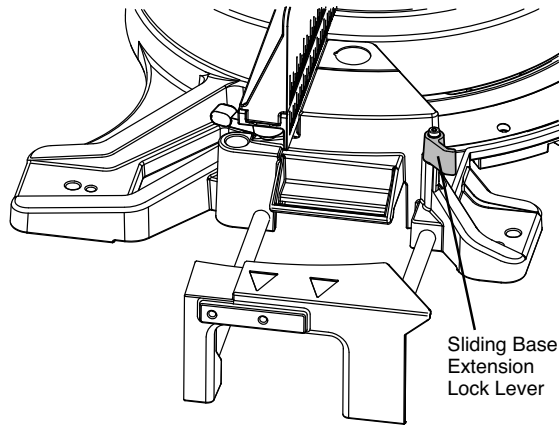

Figure 35. Sliding Base Extensions
**Operating Base Extensions** – These extensions provide extra workpiece support and are especially useful when cutting long workpieces. To reposition the extensions, simply unlock the base extension lock levers, reposition the extensions and relock the levers (see Figure 35). The left extension lock lever tightens by rotating clockwise and the right lock lever tightens by rotating counterclockwise.